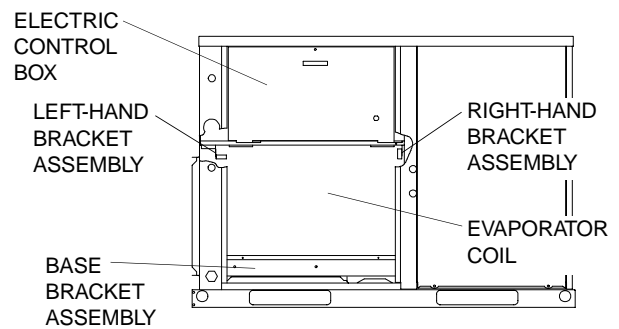

FIGURE 3 - FILTER / FRAME KIT ASSEMBLY
5. Place the left-hand bracket assembly into the unit and attach to the control box, as shown in Figure 3, two (2) #10 screws.
7. Place the right-hand bracket assembly into the unit and attach to the control box, as shown in Figure 3, two (2) #10 screws..